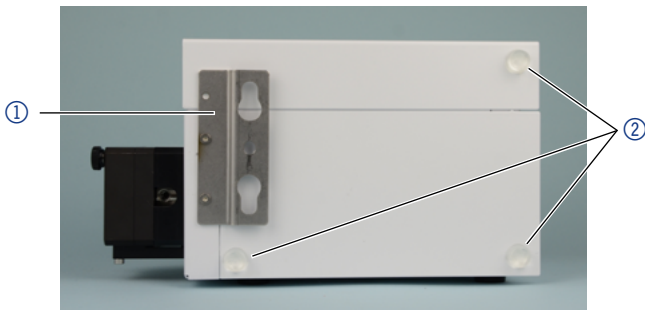
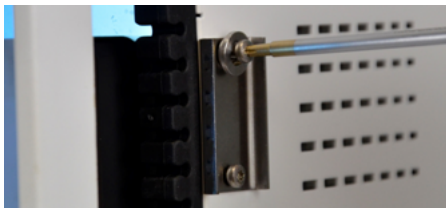

Fig. 40 AZURA® small device with mounting bracket ① and rubber spacers ② (exemplary picture with UVD 2.1S)
Fig. 41 Guidance clamp on AZURA® L device
- Put the upper keyhole of the mounting bracket onto the washer at the AZURA® L device (Fig. 40) and slide the valve drive down until the middle hole locks with the lower screw of the guidance clamp (Fig. 41).